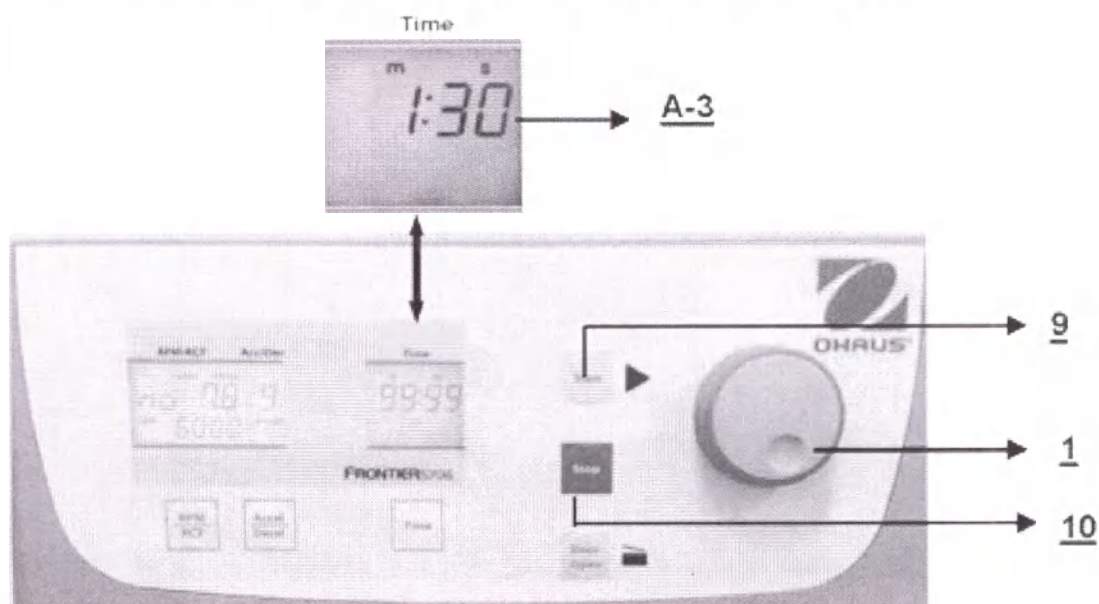

Fig. 22
To start the centrifuge, make sure that the lid is closed, then press the key **Start** (9) (see Fig. 22). The key **Start** (9) is used to start the centrifugation with the manually preset parameters. In such case the centrifuge will automatically stop after the preset centrifugation time is expired. The centrifuge can be stopped any time using the key **Stop** (10).